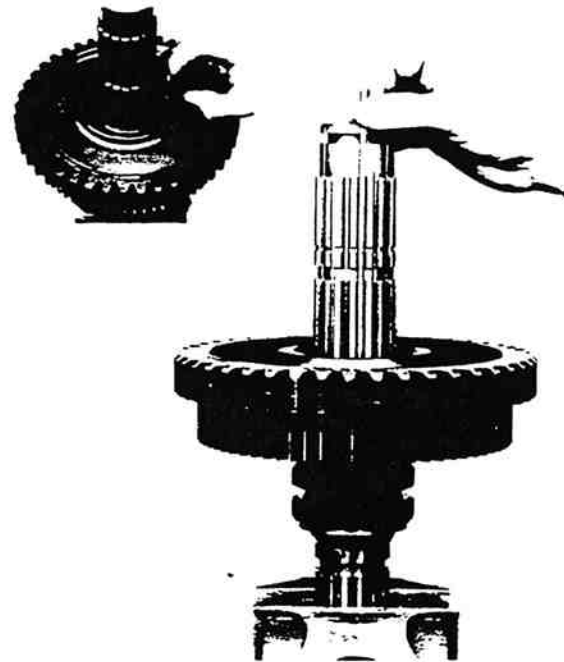

Figure 13-124. Key Re-insertion.
10. Rotate washer to align splines of washer with those of mainshaft and reinsert key (figure 13-124).